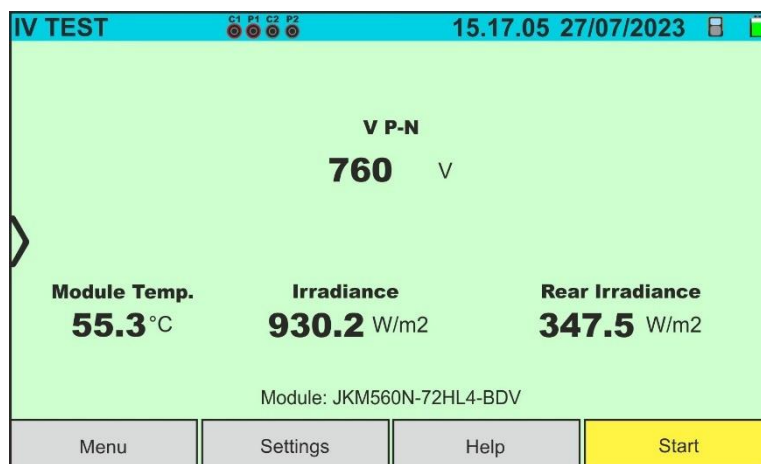

Fig. 41: Initial I-V curve measurement screen on Bifacial modules
5. In the case of **Bifacial** modules, the screen Fig. 41 is present on the display. The following parameters are shown: